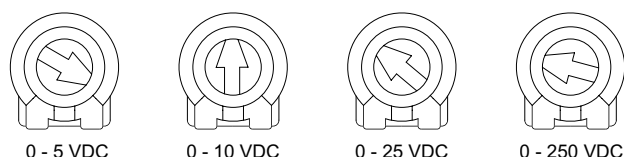

Figure 12. SIGNAL INPUT ADJ - Calibration Positions
The SIGNAL INPUT ADJ is calibrated only when the GS4 is following a voltage signal. When the GS4 is following a current signal set the SIGNAL INPUT ADJ fully CW. See Figure 12 for approximate calibration of SIGNAL INPUT ADJ.
2. Set the SIGNAL INPUT ADJ to the input range position, as indicated on Figure 12, page 8.